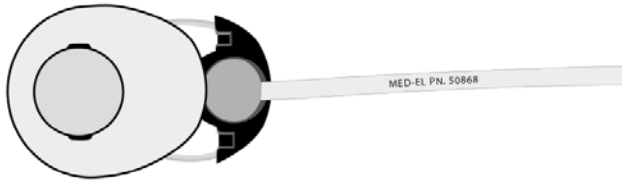

Figure 5: Samba with battery pill inserted
- Insert the battery pill straight into the battery compartment (see Figure 5).